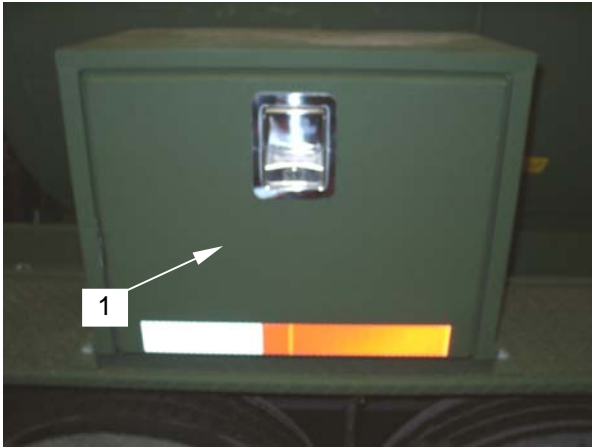

Figure 1. Tool Box
1. Open toolbox (key is on ignition key ring) (**figure 1, item 1**) and empty its contents.
2. Close toolbox cover (**figure 1, item 2**).
4. Remove toolbox (**figure 1, item 1**).